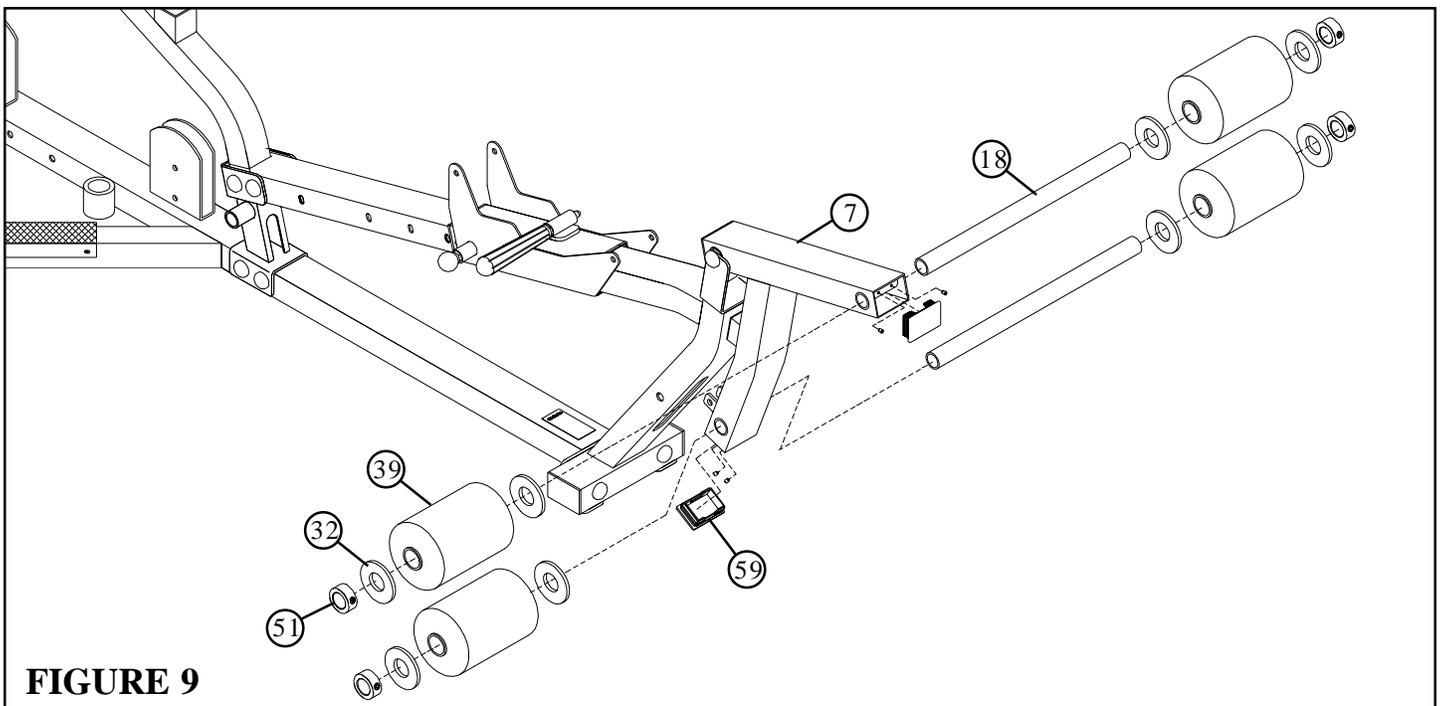

**FIGURE 8**
- Insert one 3-5/16" PIVOT SHAFT (47) into the PEDESTAL (7) as shown in FIGURE 8.
- **SECURELY** assemble the PEDESTAL (7) to the BENCH FRAME (2) using two RH CAPS (78), one 3/8 X 4-1/4" BOLT (67), two 3/8" SAE WASHERS (75), two 3/8" RH WASHERS (76) and one 3/8" LOW HEIGHT LOCK NUT (73) as shown in FIGURE 8.